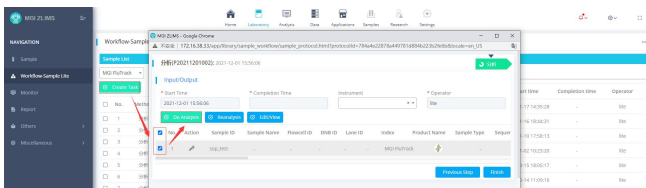

Figure 3-28 Task details page
- 2) Tick the samples to be analyzed in the analysis details page, click the **[Do Analysis]** button to submit analysis task (Figure 3-28), and the analysis parameter configuration interface will pop up.